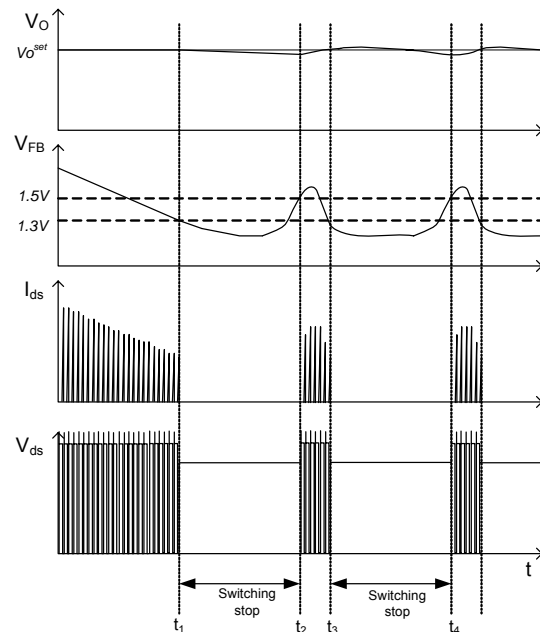

Figure 25. Burst-Mode Operation
**6. Burst Operation:** To minimize power dissipation in standby mode, the FSFA2100 enters burst-mode operation. As the load decreases, the feedback voltage decreases. As shown in Figure 25, the device automatically enters burst mode when the feedback voltage drops below  $V_{BL}$  (1.3V). At this point, switching stops and the output voltages start to drop at a rate dependent on standby current load. This causes the feedback voltage to rise. Once it passes  $V_{BH}$  (1.5V), switching resumes. The feedback voltage then falls and the process repeats. Burst-mode operation alternately enables and disables switching of the MOSFETs, thereby reducing switching loss in standby mode.